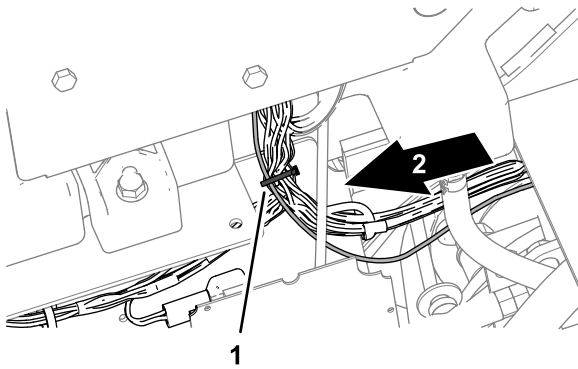

Figure 17
1. At the control panel cover, secure the power harness to the wire harness of the machine with a cable tie as shown in Figure 17.